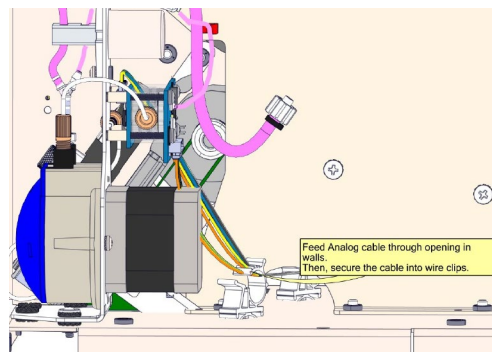

Figure 21
- 6.1. Feed the mainboard connector of the analog wire through the opening in the walls, so that the connector can be connected to the mainboard in future steps. Figure 21
6.3. Secure analog wire in clip on base. Figure 21 above.